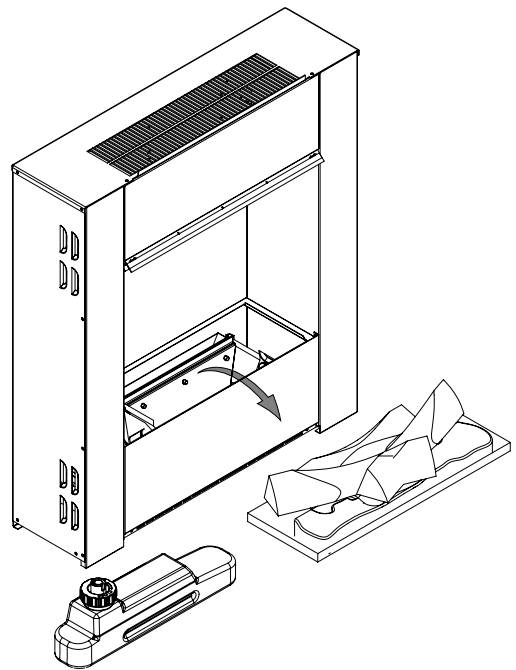
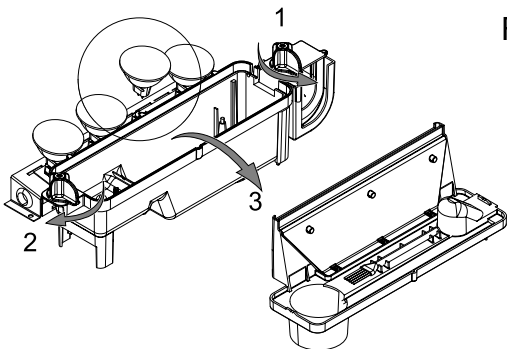

Fig.3
Fig.4
1. Leaving the flame effect on, lift out the fuelbed and water tank. (See Fig.3) and lift out the nozzle (See Fig.4)
7. Remove the defective lamp, by gently lifting vertically and disengaging the pins from the lamp holder, (See Fig.4 and 4a). Replace with a Dimplex Opti-myst, 12V, 50W, Gu5.3 base, 8° beam angle, coloured lamp. (Purchased from www.dimplex.co.uk under the section 'After Sales Service', details of how to purchase the lamps are contained therein.)
8. Carefully insert the two pins of the new lamp into the two holes in the lamp holder. Push lamp firmly in place. (See Fig.4 and 4a).
2. Gently lift out the fuelbed and place carefully on the ground. (See Fig.3)
1. Press Switch 'A' to the 'OFF' (0) position
7. Release the left sump locking tabs by turning 90°, then lift off the Nozzle. (See Fig.4)